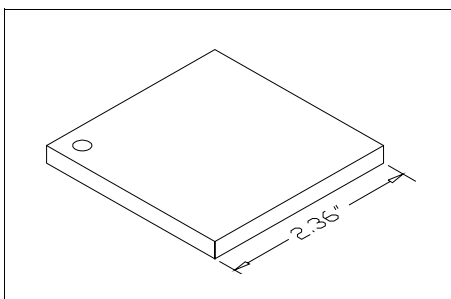

Figure 6-11. Calibration Sample
2. Locate the Calibration Sample, shown in Figure 6-11 and place it on the bottom of the exposure chamber, centering it to the center mark.